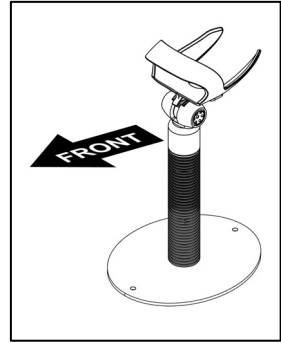

Figure 14.
2. When choosing the stand location, make sure to consider the front orientation of the stand (indicated in *Figure 14*).